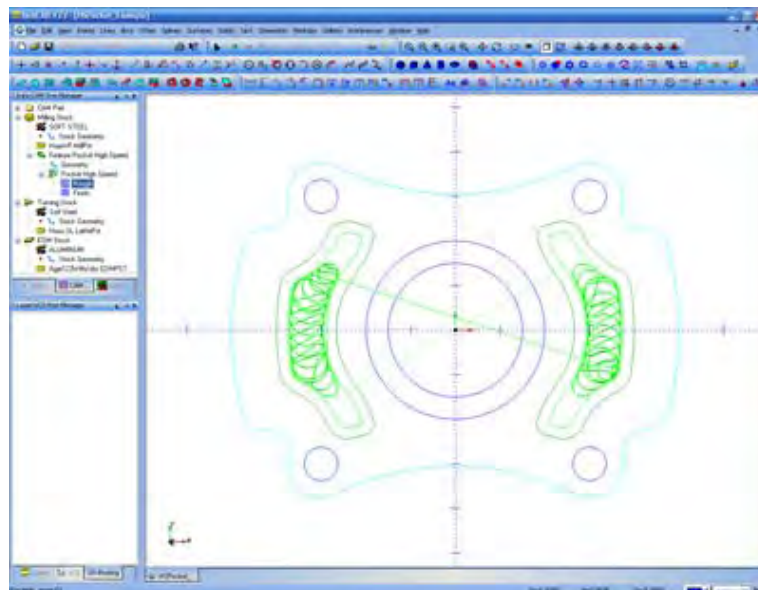

figure 8.1
- Click on **Rough** to highlight the roughing tool path in the CAD window (figure 8.1). Initially you may look at this tool path and realize that it is not roughing out the entire pocket. This is the nature of the tool path and the current .5 tool size will only go this far into the pocket.